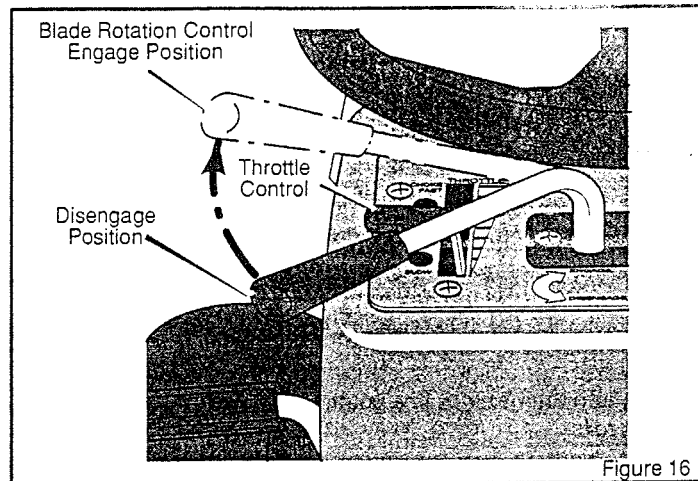
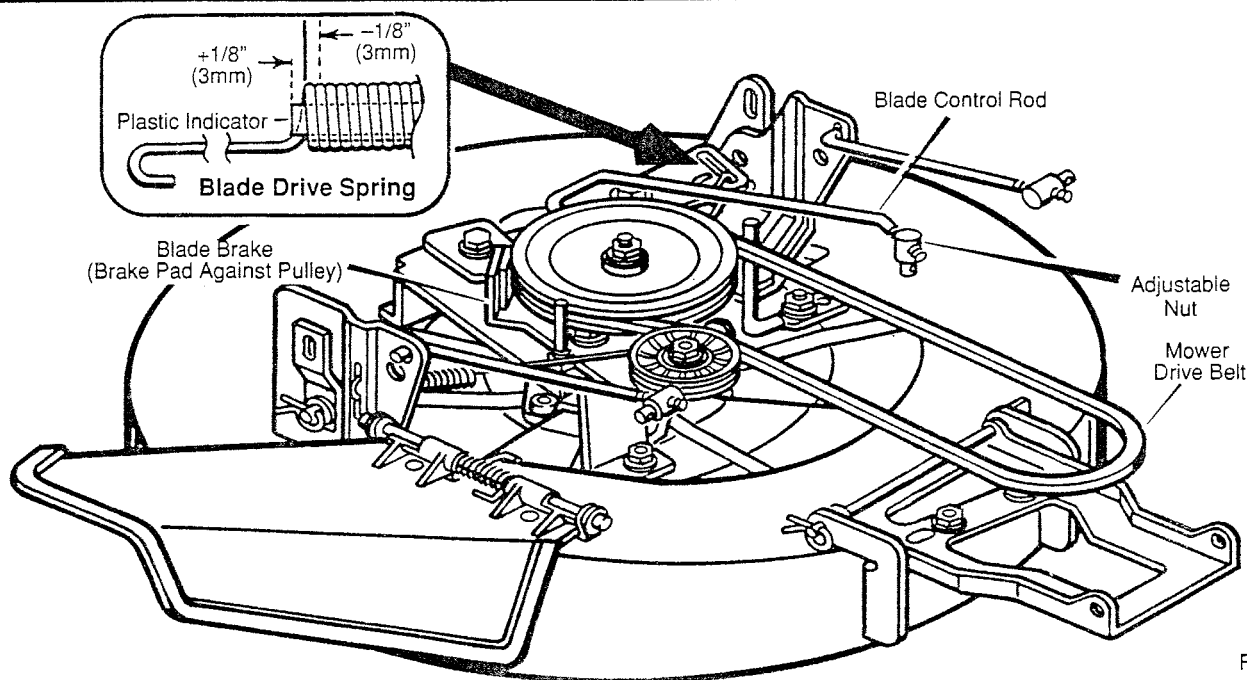

Figure 16
Figure 17
4. Move the **blade rotation control** to the **ENGAGE** position (Figure 16). Check the **plastic indicator** inside the **blade drive spring** (Figure 17). The end of the **plastic indicator** must be aligned (+ or - 1/8 inch / 3 mm) with the last coil of the **blade drive spring**.